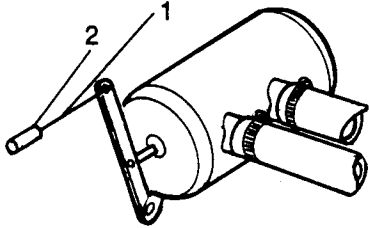

Fig N3.5
- (2) Refer to Fig N3.5. Disconnect the inner (1) and outer (2) cables at the water valve control lever (3).
- (3) Withdraw the cable through the dash grommet.